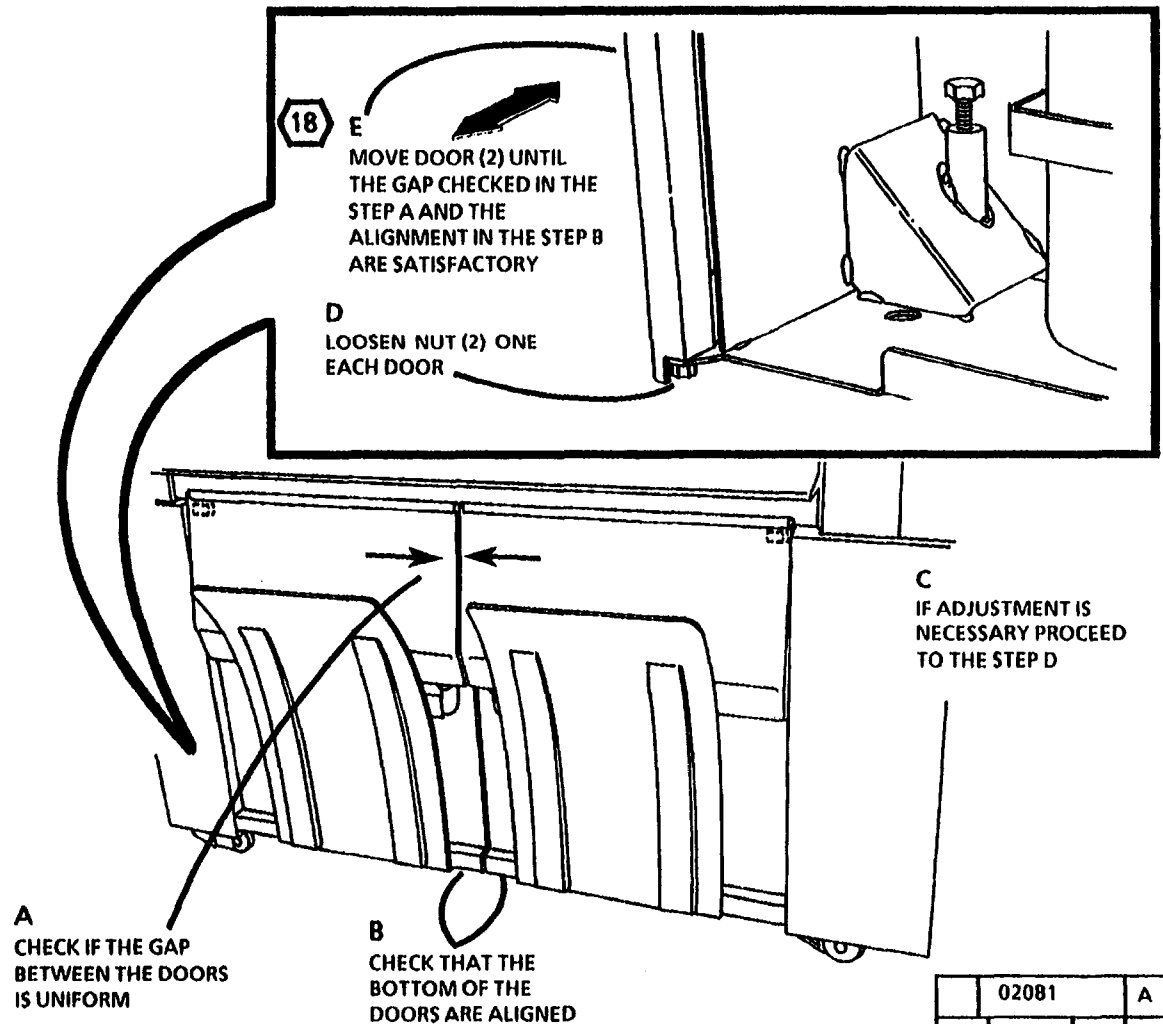

Figure 31. Check/ Adjust the Front Doors
39. (Figure 31): Check/ Adjust the Front Doors.